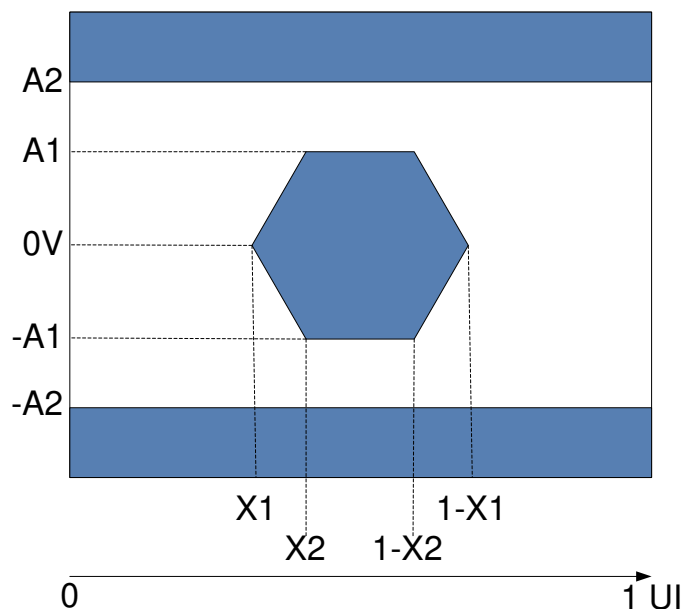

Figure 5-12. HSSI Eye Characteristics
- (1) All power supply connections are required to operate the DMD: V_{DD} , V_{DDA} , V_{OFFSET} , V_{BIAS} , and V_{RESET} . All V_{SS} connections are required to operate the DMD.
- (2) All voltage values are with respect to the ground pins (V_{SS}).
- (3) To prevent excess current, the supply voltage delta $|V_{DDA} - V_{DD}|$ must be less than specified limit.
- (4) To prevent excess current, the supply voltage delta $|V_{BIAS} - V_{OFFSET}|$ must be less than specified limit.
- (5) Supply power dissipation based on three global resets in 200μs.
- (6) LVC MOS input specifications are for pin DMD_DEN_ARSTZ.
- (7) LVC MOS output specification is for pins LS_RDATA_A and LS_RDATA_B.
- (8) Refer to Figure 5-12 (1e-12 BER).
(9) Defined in the *Recommended Operating Conditions*